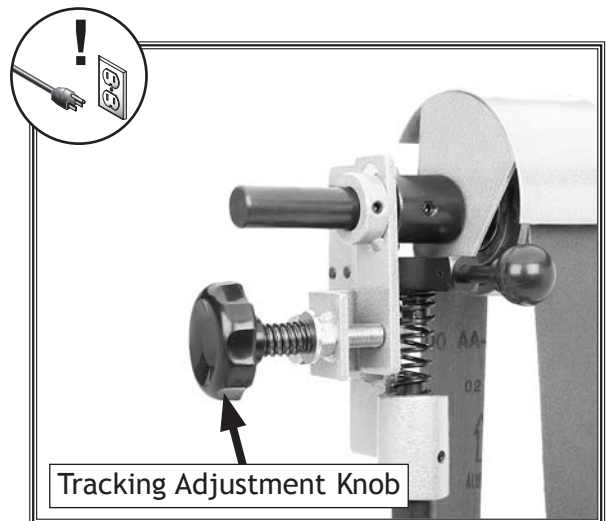

Figure 22. Sanding belt tracking adjustment knob.
4. Make a small adjustment to the tracking adjustment knob, then rotate the drive wheel several times while observing the sanding belt (see **Figure 22**).